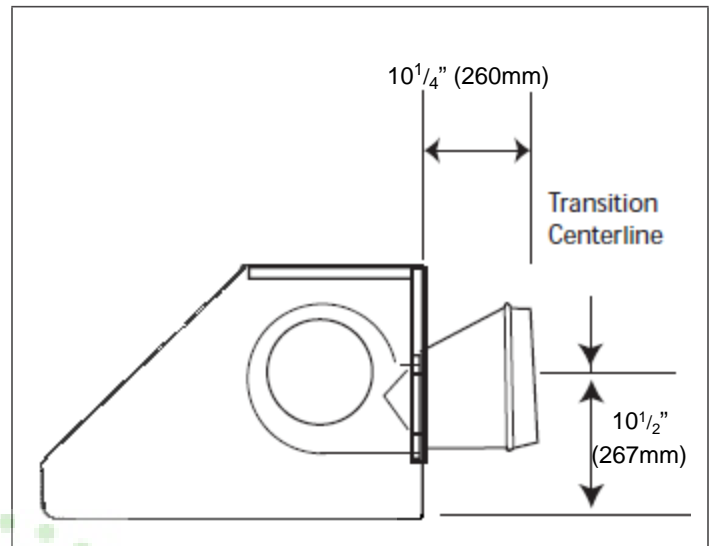
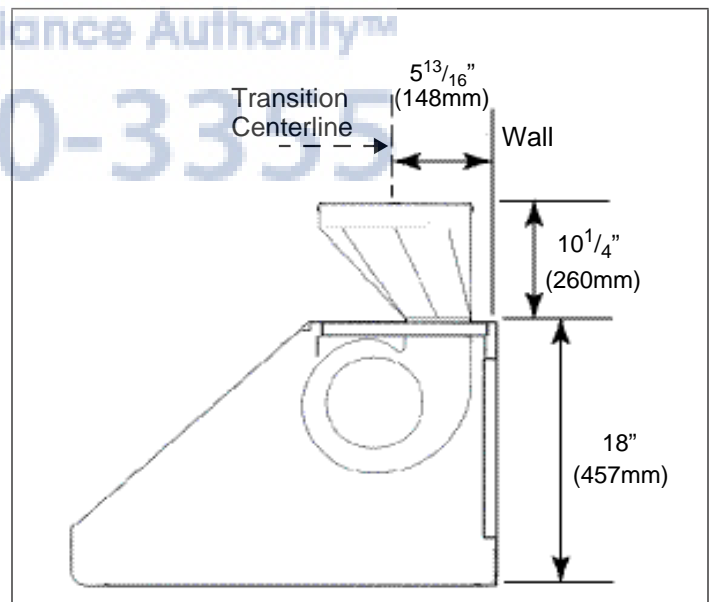

Figure 10: Transition Centerline for Horizontal Discharge
Figure 11: Transition Centerline for Vertical Discharge
Figure 11 shows the hood configured for vertical discharge. Installations using this method require a cutout in the ceiling to accommodate 10" (254mm) duct and the 1/2" (13mm) conduit carrying power to the unit.
13. Before hanging hood, install transition per Figure 10 or Figure 11. Fasten transition with (2) screws (3/8" sheet metal, supplied) and aluminum tape per all applicable codes.